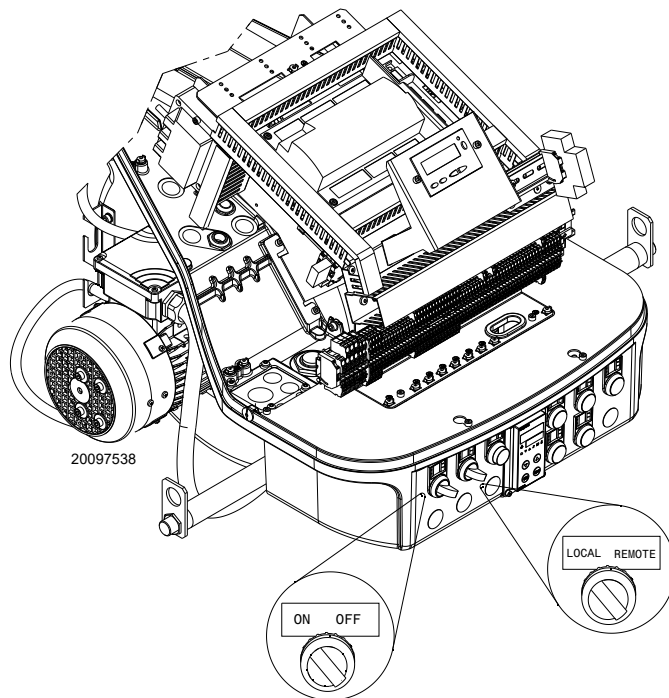

Fig. 37
Close the thermostats/pressure switches, set the parameters on the RWF 55 regulator. Please refer to the specific manual for this operation. Turn the switch of Fig. 37 to position “ON” and turn the switch of Fig. 37 to position “LOCAL”.
Make sure that the lamps or testers connected to the solenoids, or indicator lights on the solenoids themselves, show that no voltage is present. If voltage is present, stop the burner **immediately** and check the electrical wiring. When the burner starts, check the direction of the motor rotation, as indicated in (Fig. 37).
As the burner is not fitted with a device to check the sequence of the phases, the motor rotation may be incorrect. As soon as the burner starts up, go in front of the cooling fan of the fan motor and check it is rotating anticlockwise. See Fig. 37.
- place the switch of Fig. 37 in position “0” and wait for the control box to carry out the switch-off phase;